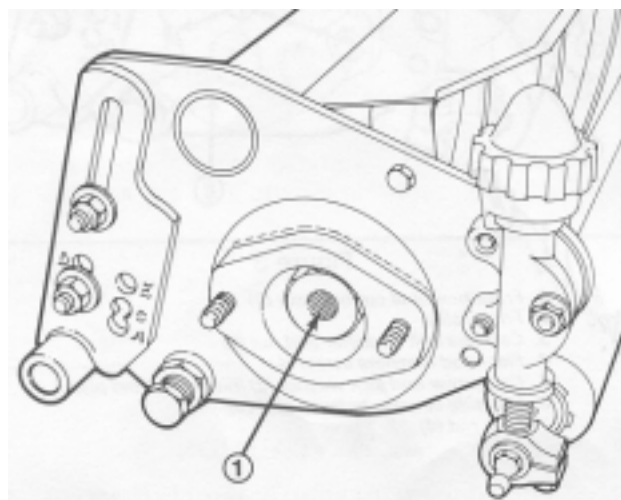

Figure 5
6. Install the new splined nut and torque to 45-55 ft-lb. (Fig. 5). Check to ensure drag on reel bearing is 7-11 in-lb; refer to cutting unit Operator's Manual for proper drag set procedures.